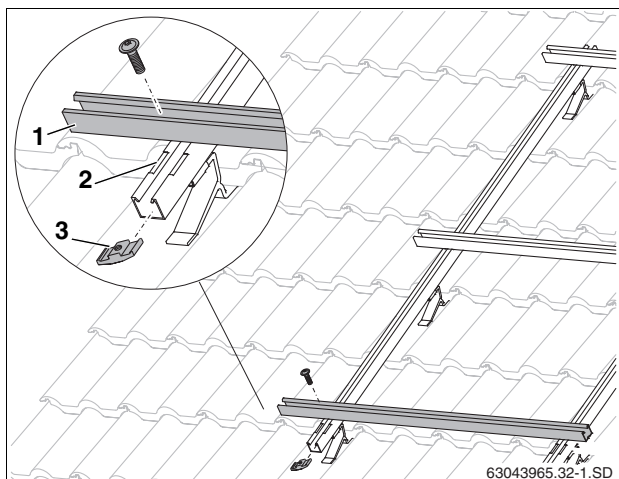

Fig. 27 Installing horizontal rails
- ▶ Place the horizontal rails (Fig. 27, [1]) into the indentations (Fig. 27, [2]) on the vertical rails and loosely fasten using screw and counter plate (Fig. 27, [3]) so that the rails can still be aligned.